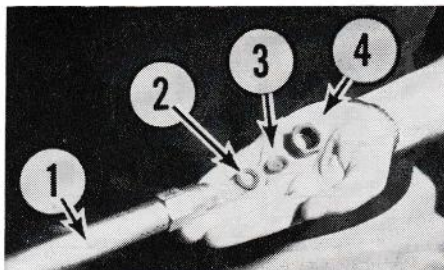

Figure 31
**USING THE SPRAY GUN.** The large Handle on the Gun controls the shape of the spray pattern, either a cone-shaped or a jet-shaped spray. Adjust to suit your job requirement. See Figure 31 for parts of the Gun.